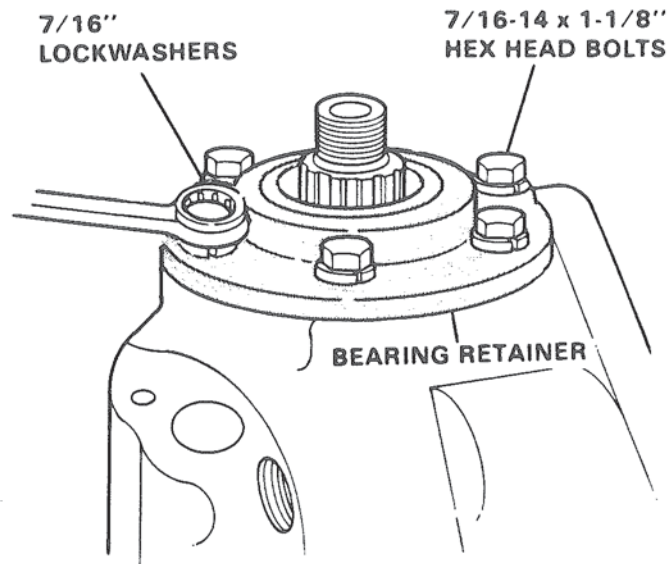

Figure 45. Installing Bearing Retainer onto Case.
9. Place bearing retainer in place on rear of case. Figure 45. Install six (6) 7/16 lockwashers and six (6) 7/16-14 hex head bolts; tighten bolts to a torque of 42 - 50 ft. lbs. (5.79 - 6.90 kg/m)